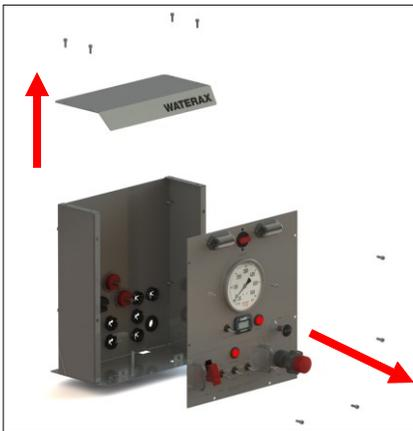

Figure 4
1. Remove the top plate of the **WCP** (**Fig.4**)
2. Remove the front plate of the **WCP**. Pull it out slowly while being careful not to damage internal wiring. (**Fig.4**)
1. Remove the top plate of the **WCP** (Fig.4)
2. Remove the front plate of the **WCP**. Pull it out slowly while being careful not to damage internal wiring. (Fig.4)